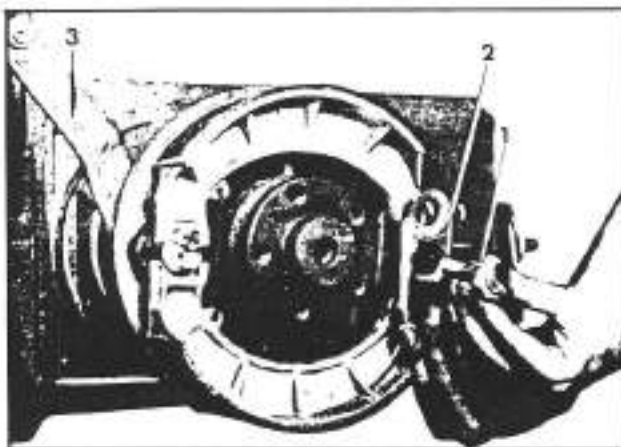

Fig. 3-51. Removal of the brake shoes
- Remove the bolts (1; fig. 3-51), the shackle (2; fig. 3-51), and take off the brake shoes by moving the lever (3; fig. 3-51).